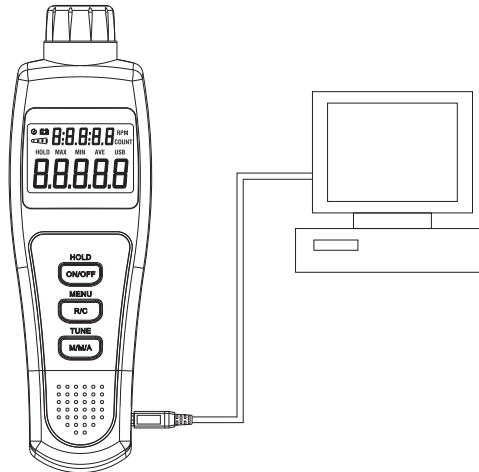

Figure 6
C. Data Transferring and USB (UT372 only, see figure 6)
Connect the USB interface cable, the Meter and the computer as per the figure 6.